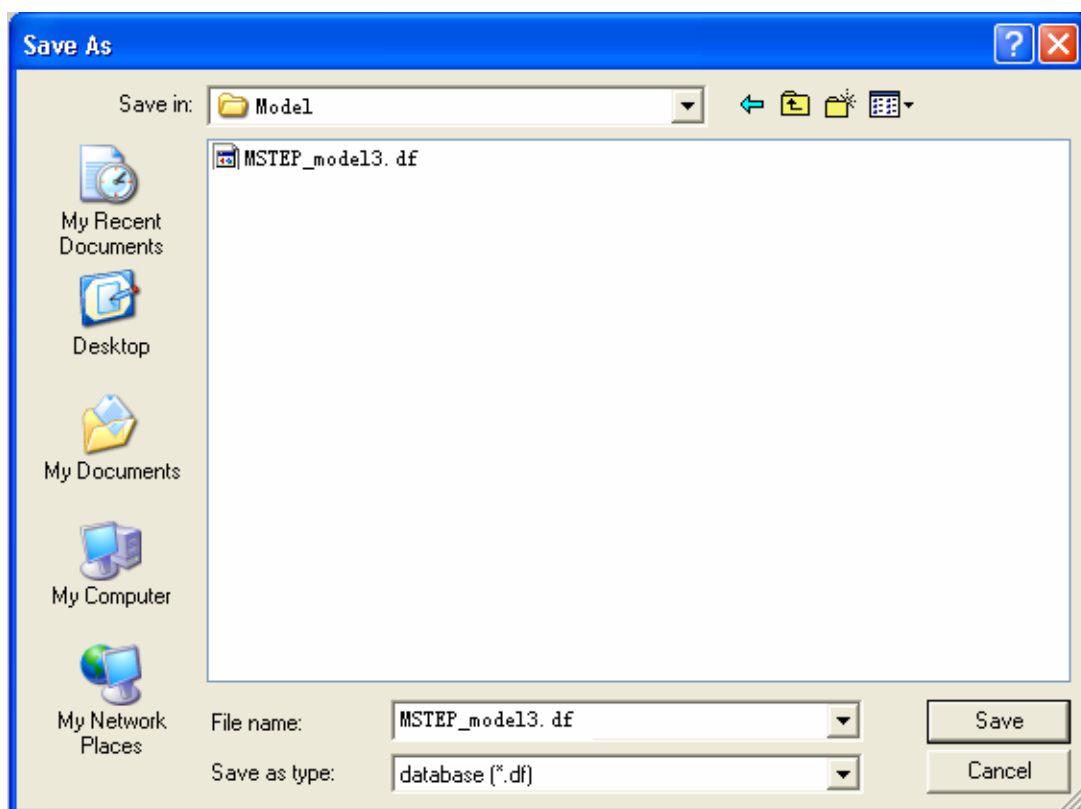

Figure 4.4: Save as file dialog box
2. Save the database file in a specified working directory. Select menu **File**→**Save as** or click the SAVE  icon, input "MSTEP_model3.df", then select "save" to save it and exit the dialogue window. See figure 4.4.